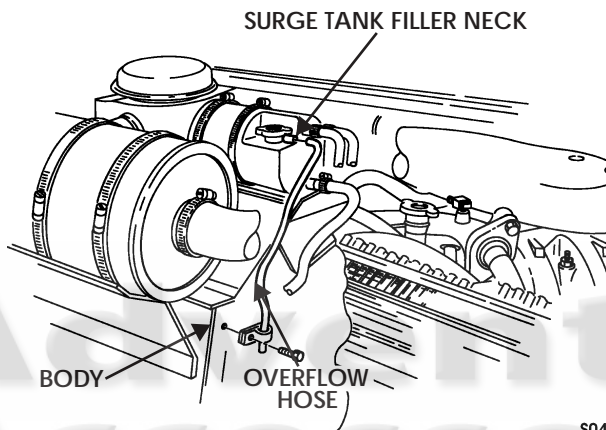

Figure 4-20: Surge Tank Overflow Hose
1. Remove overflow hose from surge tank filler neck (Figure 4-20).
1. Install overflow hose on surge tank filler neck (Figure 4-20).